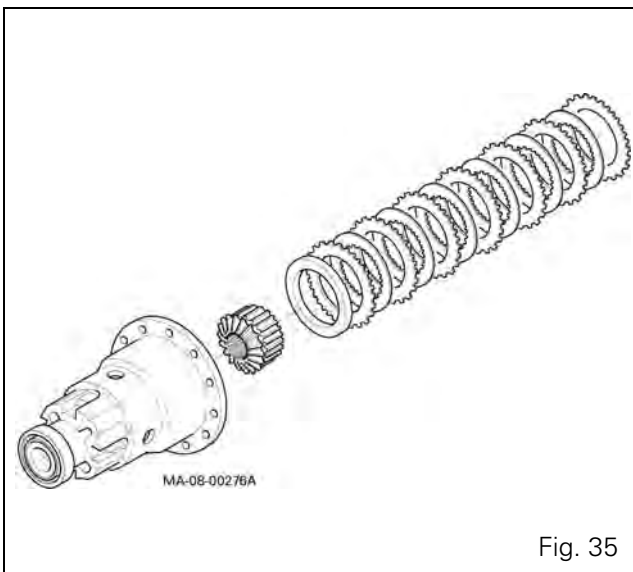

Fig. 35
41. Position all the internal parts in the bearing: planet gears, discs and counter-discs as shown in the illustration (Fig. 35).